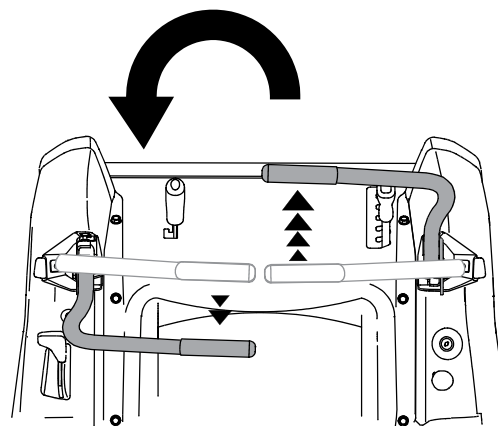

Figure 5-10
- To turn counterclockwise, move the right control lever forward while simultaneously moving the left control lever rearward. See Figure 5-10.